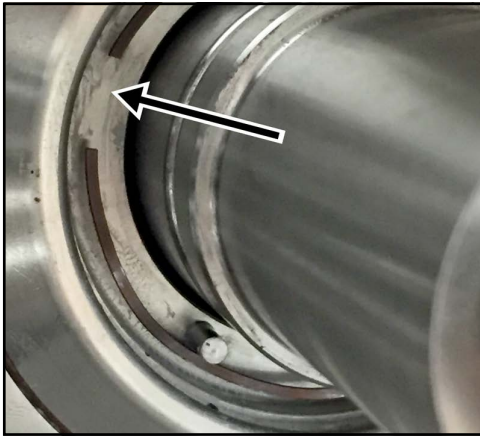

Figure 95 - Seal wave spring position
1. Install the seal wave spring on each shaft as shown in Figure 95.
NOTE: On the 015-UTS and 220-UTS, the wave spring is a single layer. Make sure that the gap in the wave spring is positioned between the pins as shown in Figure 95.